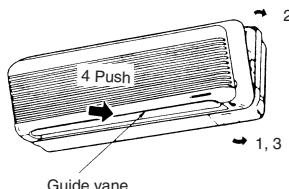

Fig. 3-13
3.7. Installing the front panel (Fig. 3-13)